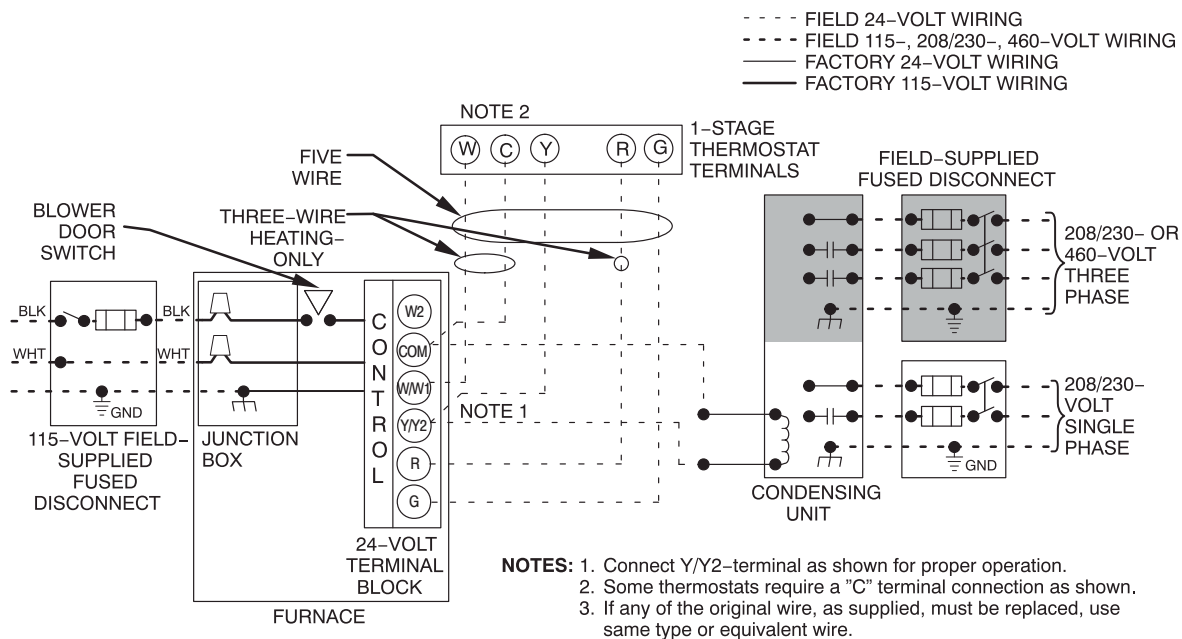

Fig. 36 – Typical Field Wiring Diagram
6. Connect power cord power and neutral leads to furnace power leads as shown in Fig. 36.
5. Connect field power and neutral leads to furnace power leads, as shown in Fig. 36.
Make field 24-v connections at the 24-v terminal strip. See Fig. 37. Connect terminal Y/Y2 as shown in Fig. 36 for proper cooling operation. Use only AWG No. 18, color-coded, copper thermostat wire.